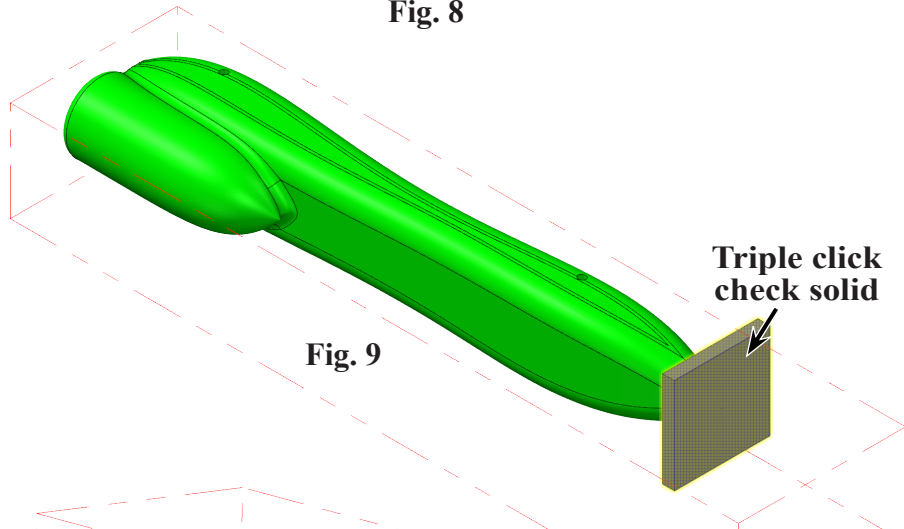

Fig. 9
Step 5. **Triple click the check body** to select as avoidance geometry, **Fig 9.**